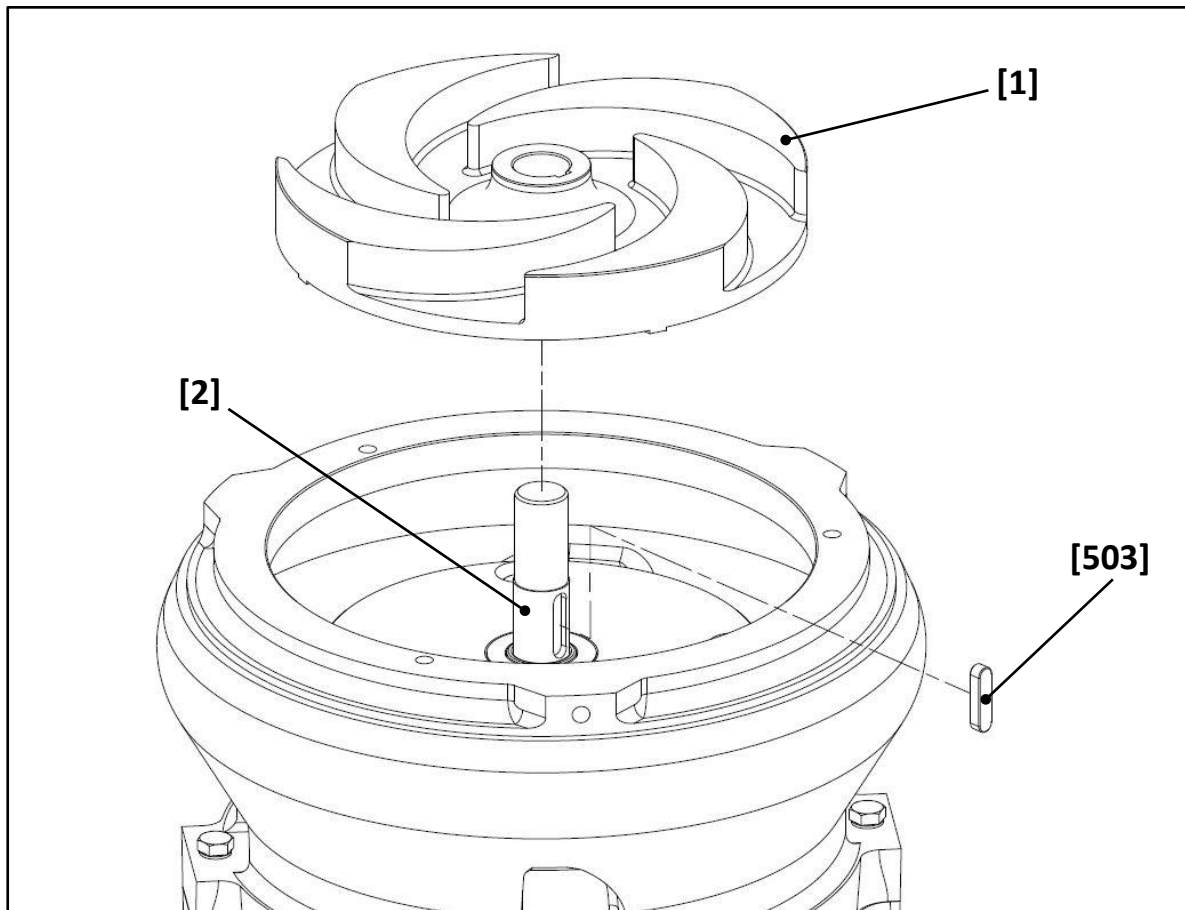

Fig. 30
- remove the impeller [1] and the key [503] from the shaft [2] (see Fig. 30).